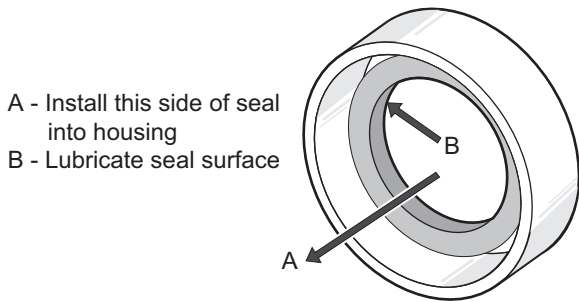

Figure 9 Seal Installation
- Remove the cotter pin (15) castellated nut and washer (16), outer roller bearing (18) and hub assembly (17) from the spindle (Ref Fig. 9).
- Remove the inner bearing seal (20), inner roller bearing (18) and bearing races (19) by tapping lightly around the bearing race through the hub using a soft non ferrous punch. Tap the punch in a circular pattern to avoid damaging the bore of the hub.